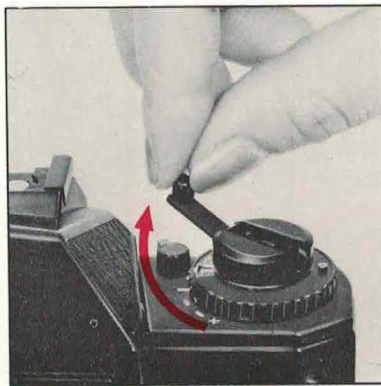
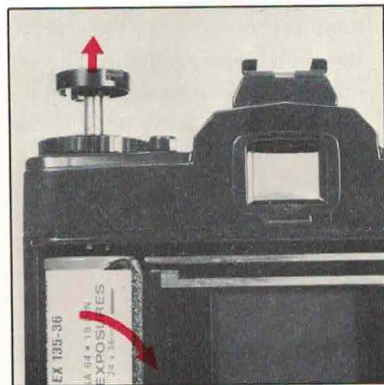

Fig. 26
Fig. 27
2. Lift up the rewind crank on the rewinding knob (Fig. 26).
3. Turn the rewind crank in a clockwise direction (Fig. 26). Tension will be felt as the film is being rewound into the cartridge. Stop re-winding when the tension ceases. Open the camera back by pulling out the rewind knob all the way and lift out the film cartridge (Fig. 27). The rewind button on the camera bottom will snap back into position when the film advance lever is next operated. Have the film processed without delay.